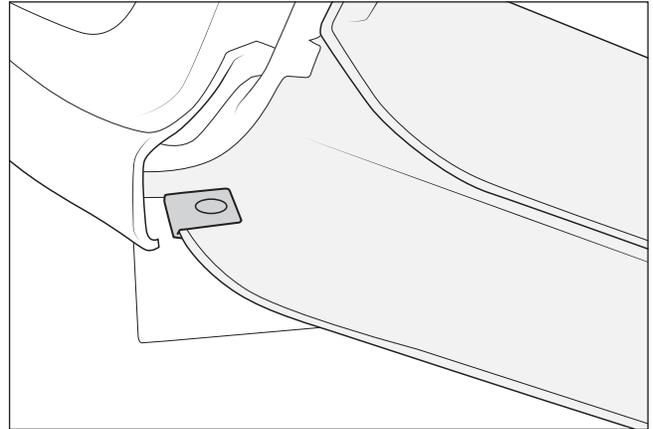

Figure 3
- B. Install supplied M4 U-nuts onto the grill supports (fig. 3).